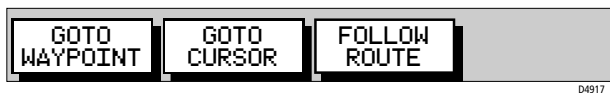

Figure 3-38: GoTo Soft Keys
- To access the Goto/Follow soft keys, press the GOTO default soft key; the GOTO soft keys are displayed as shown in *Figure 3-38*.
1. Press the GOTO default soft key to display the Goto/Follow soft keys (Figure 3-38).